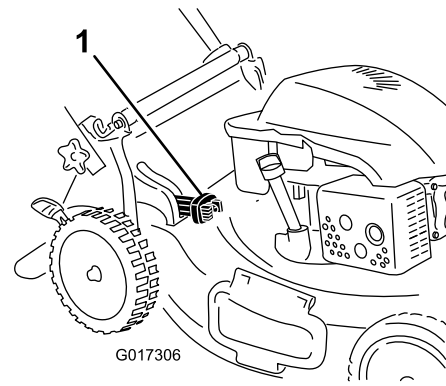

Figure 22
- For bagging the grass and leaf clippings, press the button on the bag-on-demand lever and move the lever forward until the button on the lever pops up (Figure 22)